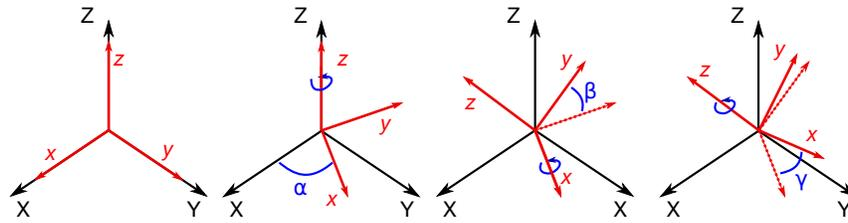

Figure 5-2. A rotation represented by Euler angles (α, β, γ) using $Z(\alpha)X(\beta)Z(\gamma)$ intrinsic rotations.
- Local Coordinate Systems.** It is possible to have the ICFD parts or ICFD_PART_VOLs rotate around the global reference frame but also to define and use a local reference frame by defining its point of origin and two of its vectors $\mathbf{v}_1 = (X1, Y1, Z1)$ and $\mathbf{v}_2 = (X2, Y2, Z2)$. The third vector is, then, in the direction of $\mathbf{v}_1 \times \mathbf{v}_2$. See Figure 5-2.